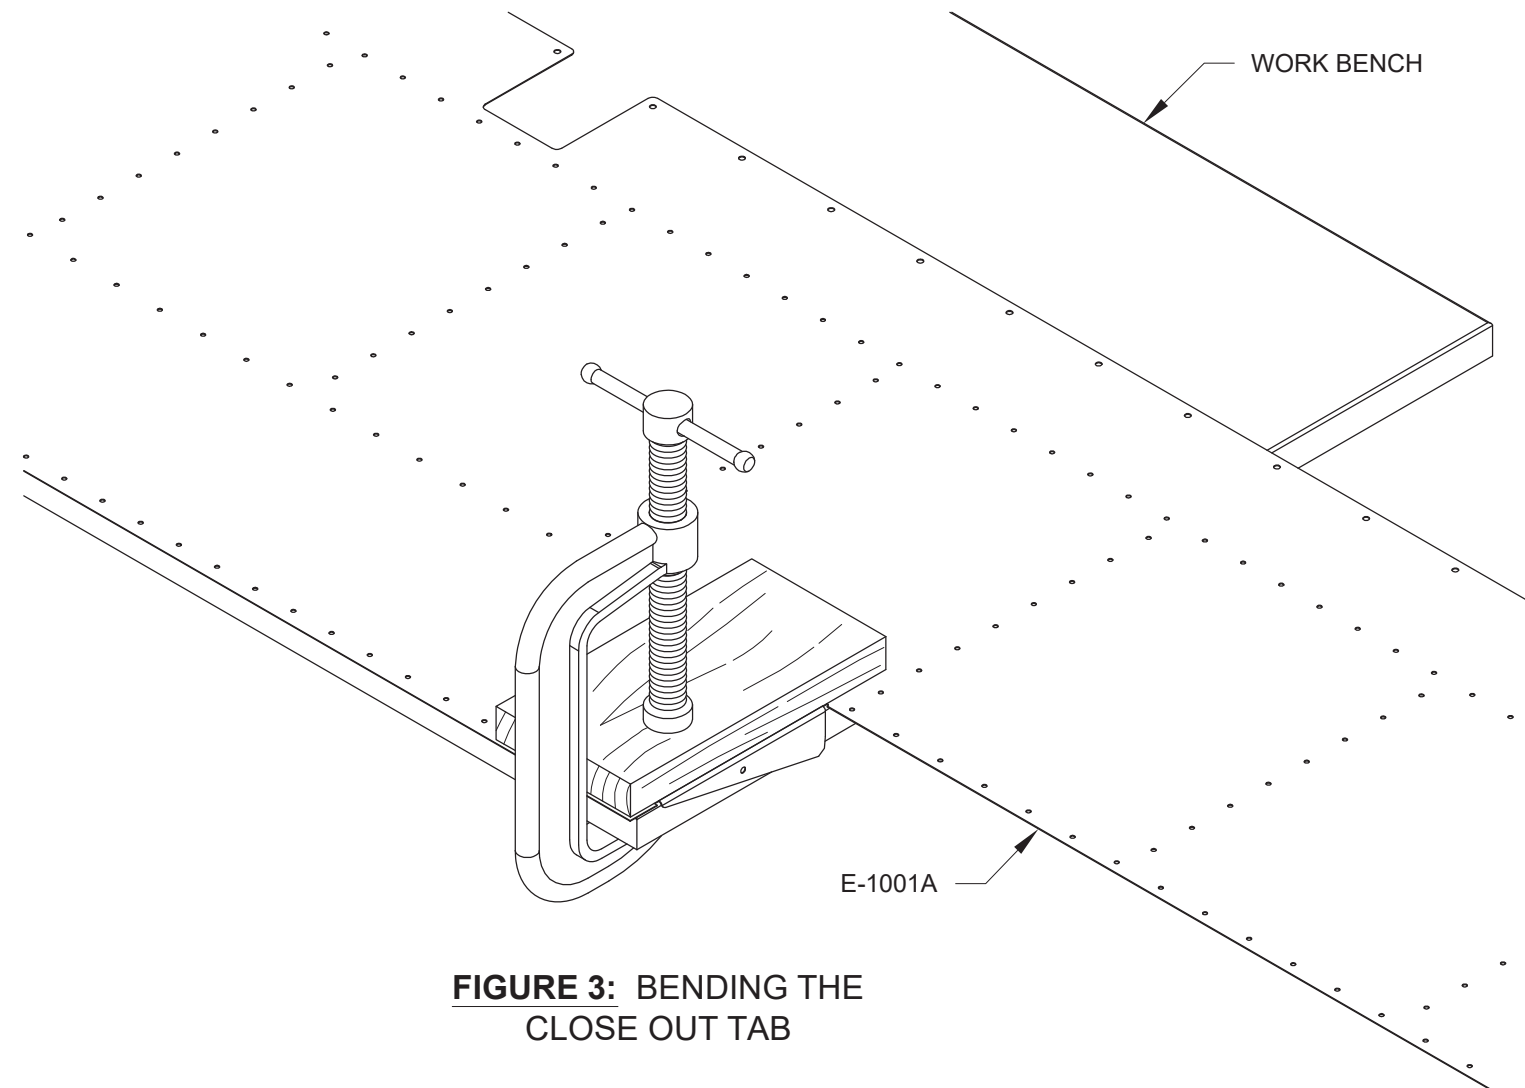

FIGURE 3: BENDING THE CLOSE OUT TAB
Step 2: Clamp a skin between the surface of a work bench and a piece of wood with the bend line at the edge of the workbench as shown in Figure 3.